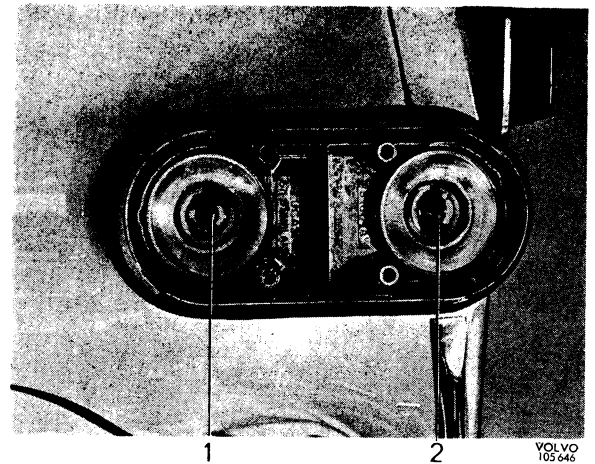

Fig. 3-87. Rear light, glass removed
2. Unscrew the two screws holding the rear light housing to the body, see Fig. 3-87. The nuts are accessible from inside the luggage compartment.